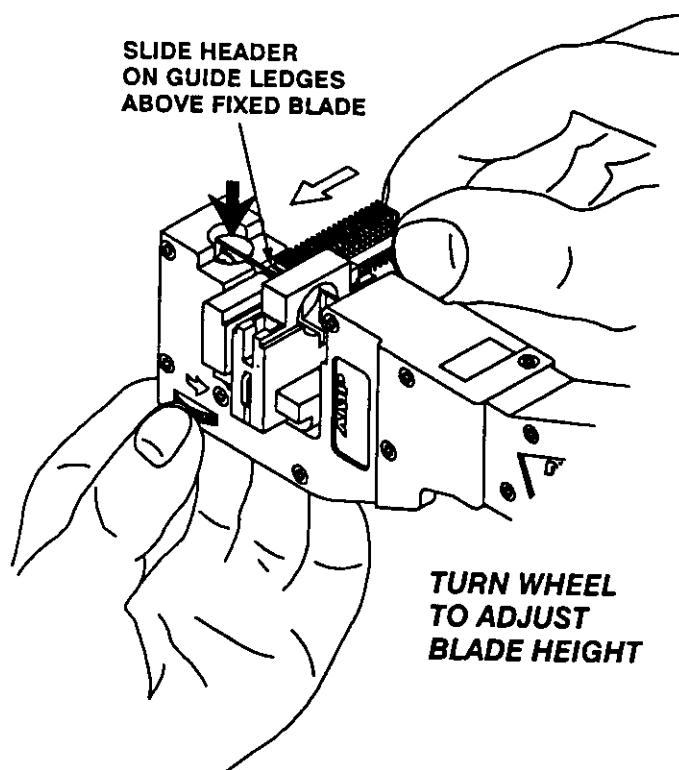

Fig. 3
C. Adjust Fixed Blade Height (Figure 3)